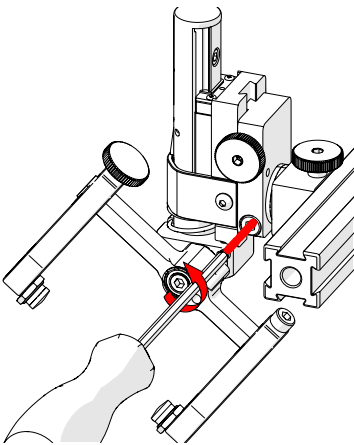

Fig. 116 - Loosen 3 mm screw
2. Using the supplied 3 mm hex driver (*Fig. 38*), loosen the longitudinal adjustment screw (*Fig. 116*).